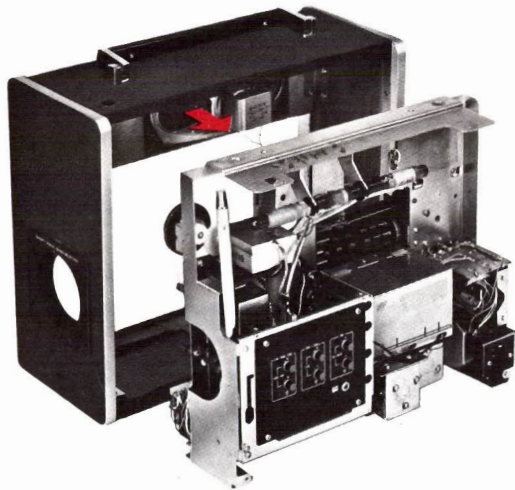

Fig. 2-6
9. Now, the chassis is removable as shown in Fig. 2-6.